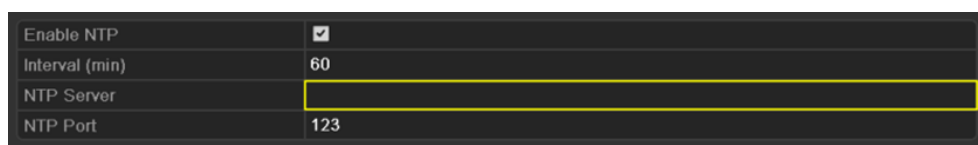

Figure 9.12 NTP Settings Interface
2. Select the **NTP** tab to enter the NTP Settings interface, as shown in Figure 9.12.